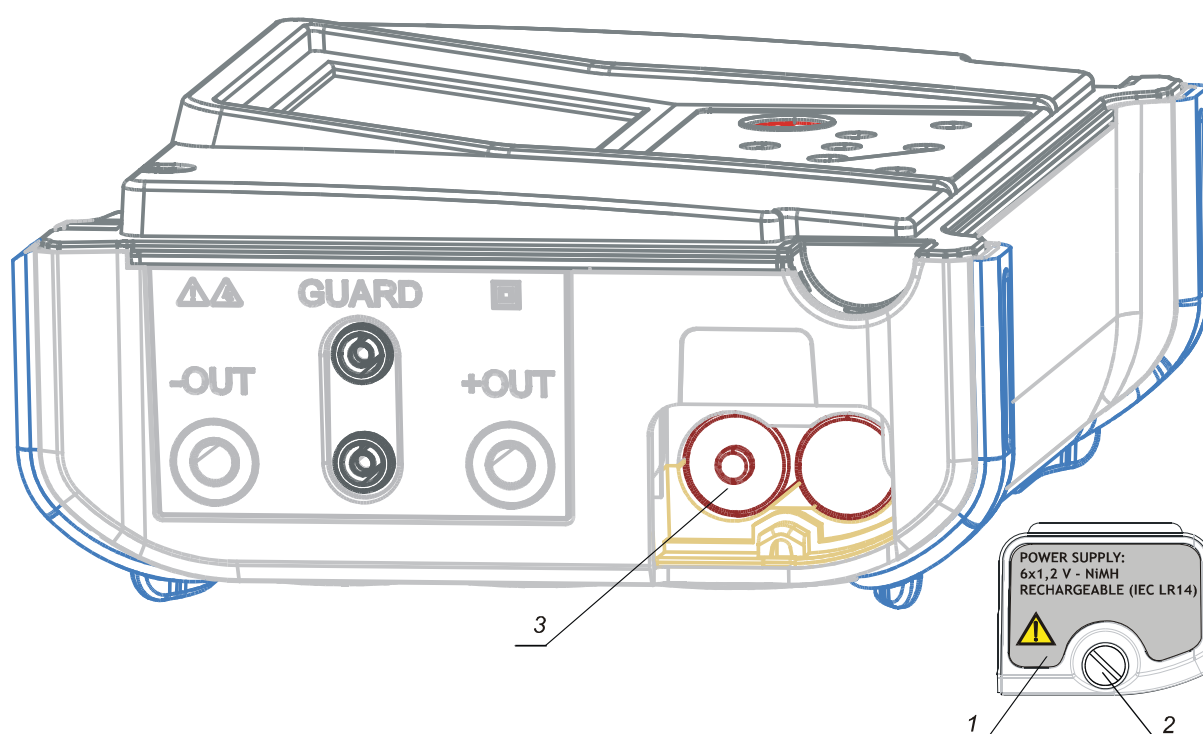

Fig. 32. Correct polarity of inserted batteries
Battery cells are stored in the bottom section of the instrument casing under the battery cover (see **Fig. 32**). When inserting batteries for the first time please note the following:
- ◆ **Insert the batteries correctly (see *Fig. 32*), otherwise the test instrument will not operate!**
Battery cells are stored in the bottom section of the instrument casing under the battery cover (see **Fig. 32**). In case the batteries become defective please note the following:
- ◆ Insert the batteries correctly (see Fig. 32), otherwise the test instrument will not operate and battery may be discharged!
Nominal power supply voltage is 7.2 V DC. Use six NiMH cells with size equivalent to IEC LR14 (dimensions: diameter = 26 mm, height = 46 mm). See the next Fig. 32 for correct polarity of the batteries.